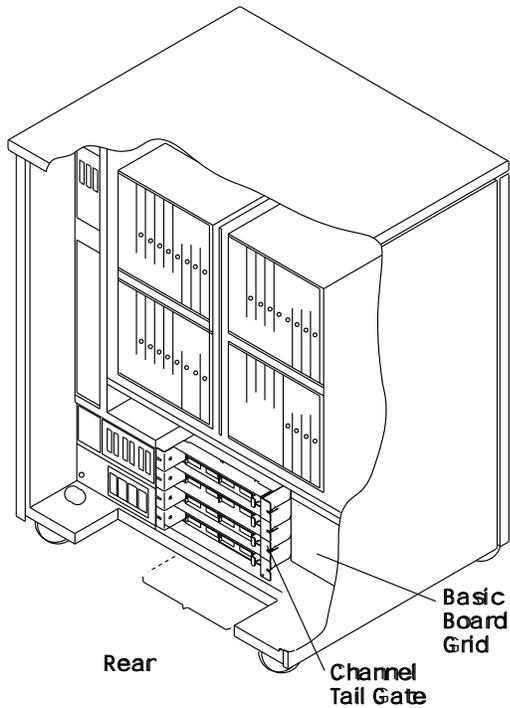

Figure 4-131. Channel Tailgate and Basic Board Grid
5. Locate the channel tailgate. Refer to Figure 4-131 on page 4-97.
6. Remove the basic board grid. (two screws must be removed). Refer to Figure 4-131 on page 4-97.